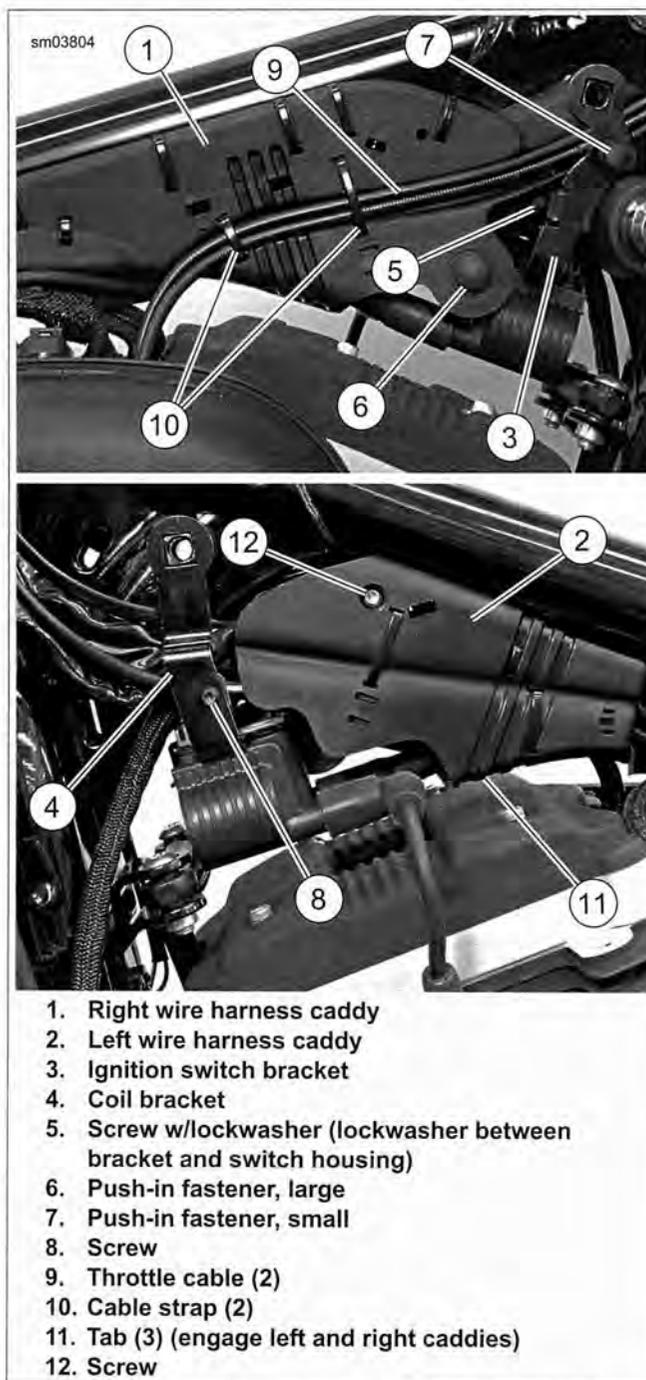
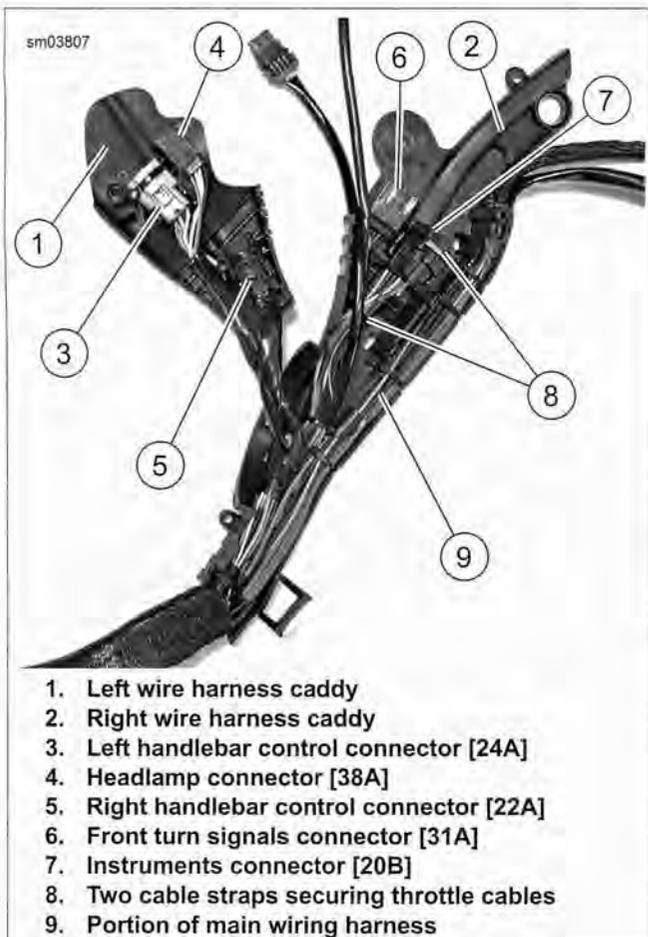

Figure 6-111. Wire Harness Caddy Assembly
Figure 6-114. Wire Harness Caddies (Removed from Vehicle for Clarity)
See Figure 6-111. The wire harness caddy assembly (1, 2) is secured to the ignition switch bracket (3) with two push-in fasteners (6, 7), and to the frame with mounting tabs hooked onto a bracket under the frame backbone tube.
6. See Figure 6-111. Remove screw (8) and disengage coil bracket (4) from mounting boss on frame.
10. See Figure 6-111. Remove screw (12) and carefully disengage left wire harness caddy (2) from right wire harness caddy (1).
11. Cut two cable straps (10) securing throttle cables (9) to right wire harness caddy.
14. See Figure 6-111. Remove and discard push-in fasteners (6, 7). Unhook right wire harness caddy from frame backbone bracket. Lower ignition switch bracket (3) from mounting bosses on frame to free right wire harness caddy.
15. See Figure 6-114. Unplug the following connectors:
- a. Headlamp connector [38B] (4).
- b. Left hand control connector (gray) [24B] (3).
- c. Right hand control connector (black) [22B] (5).
- d. Front turn signal connector [31B] (6).
- e. Instruments connector [20A] (7).
1. See Figure 6-114. Fit portion of main wiring harness (9) and ignition switch harness along top of right wire harness caddy (2) and secure with cable straps, as shown in the figure.
2. Mount front turn signals connector [31A] (6) onto mounting tab on right wire harness caddy.
3. See Figure 6-111. Place throttle cables (9) in groove in right wire harness caddy (1).
4. See Figure 6-114. Place instruments connector [20B] (7) into right wire harness caddy (2). Secure connector and throttle cables with a cable strap (8). Secure throttle cables and harnesses (as shown in the figure) with a second cable strap.
5. Mount handlebar control connectors [22A], [24A] (5, 3) to left wire harness caddy (1) with cable straps. Mount headlamp connector [38A] (4) onto tab on left wire harness caddy.
6. See Figure 6-111. Hook right wire harness caddy (1) into bracket on frame backbone. Secure front of caddy onto ignition switch bracket mounting boss on right side of frame. Raise ignition switch bracket (3) up into position and mount it onto boss on frame.
11. Route rear spark plug cable (3) from ignition coil (1) tower down through notch (4) in right wire harness caddy.
- a. Instruments connector [20A] (7).
- b. Front turn signal connector [31B (6)].
- d. Left hand control connector (gray) [24B] (3).
- e. Headlamp connector [38B] (4).
16. See Figure 6-111. Mate left wire harness caddy (2) to right wire harness caddy (1). Secure with screw (12) and tighten.